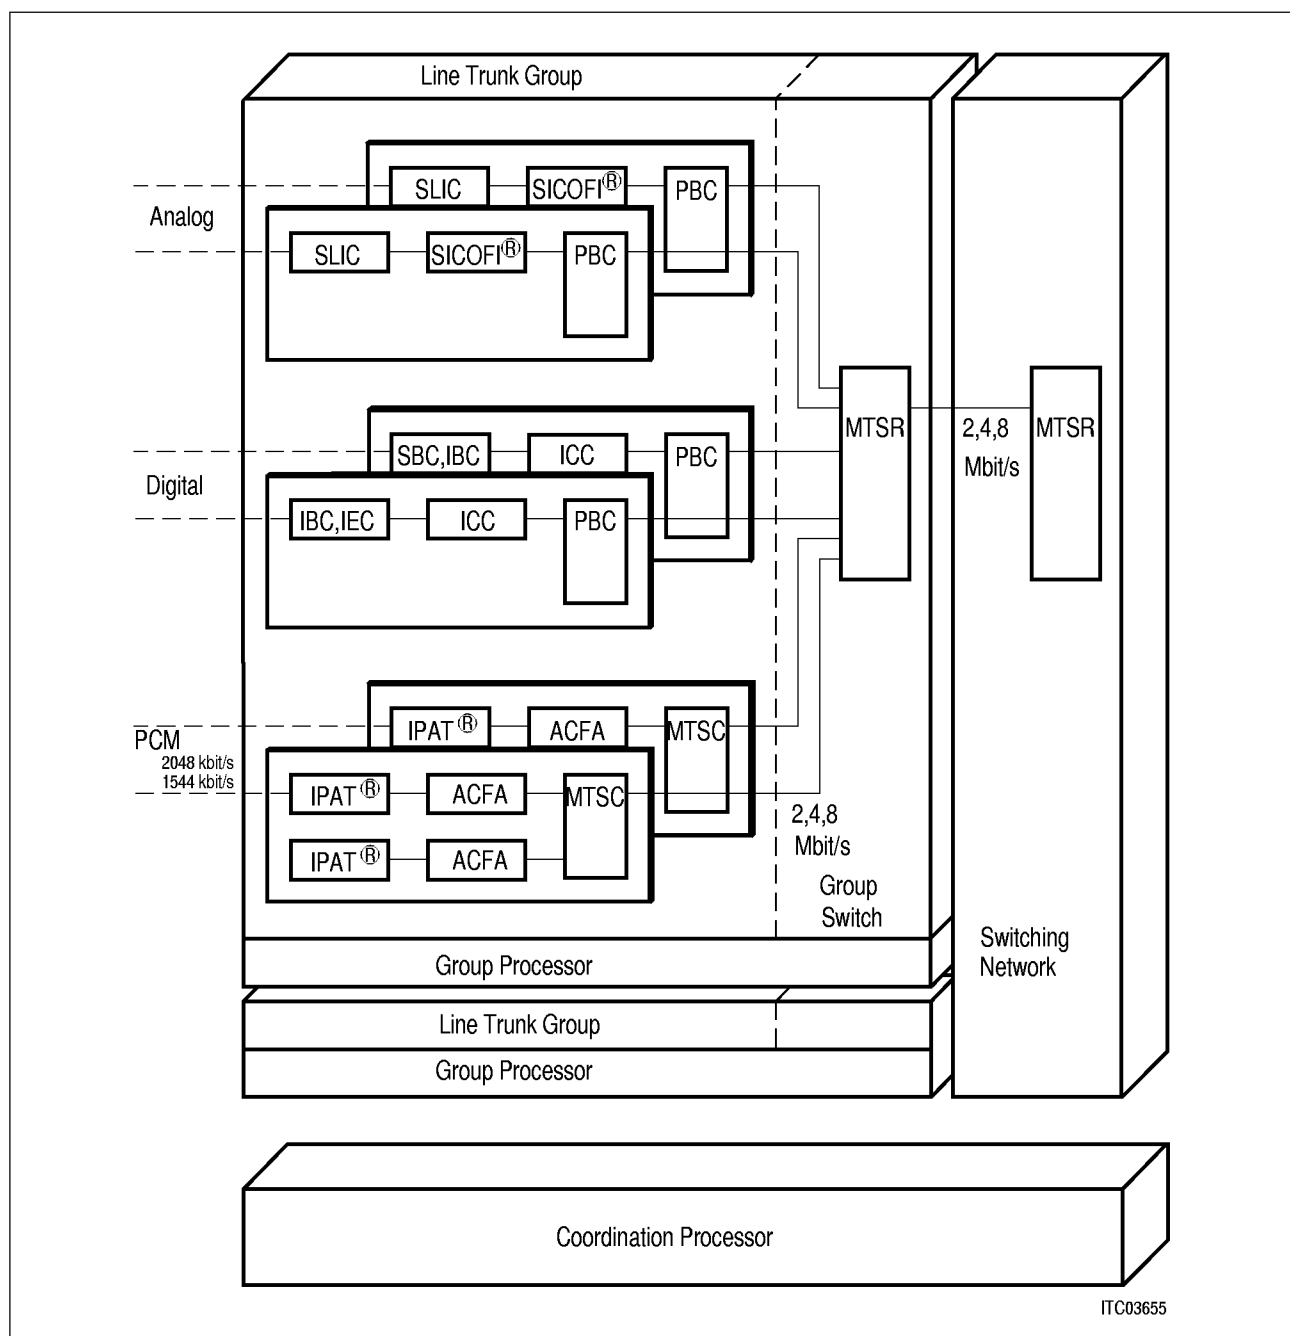

Figure 7
Figure 7 shows the PEx 2045 in its different applications in a digital switching system. It is used here as the main device in the switching network (SN), as a group switch (GS) to connect different digital or analog subscriber line modules (SLMA, SLMD) or digital interface units (DIU) with one another and as the interface device for the digital interface units. The SLICs and SICOFI (PEB 2060) are subscriber line drivers and codec-filter devices, respectively, for the analog line. SBC (PEB 2080), IEC (PEB 2090), IBC (PEB 2095) and ICC (PEB 2070) are the layer-1 and layer-2 ISDN devices for the digital line. The peripheral board controller PBC (PEB 2050) multiplexes the different lines in a subscriber line module to the 2- or 4-Mbit/s highways, which are input to the group switch.